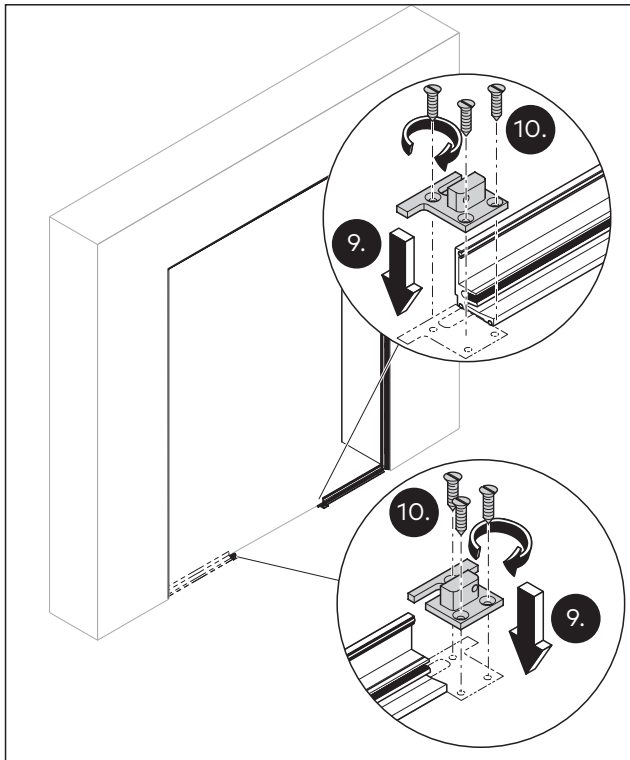

Fig. 21 Example of attaching the door frame positioner to a mounting profile from the viewpoint of the hinge side
9. Align the door frame positioners (Fig. 21).